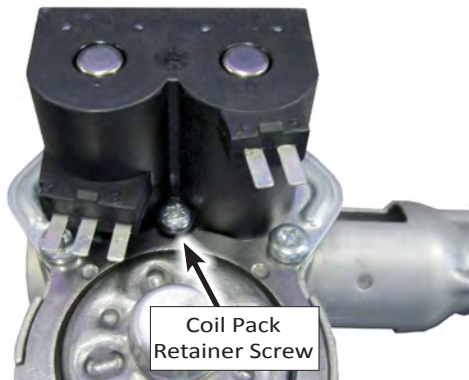

Figure 4 - Remove retainer screw.
9. Remove the one (1) Phillip screw, indicated in Figure 4, to release the coil pack.